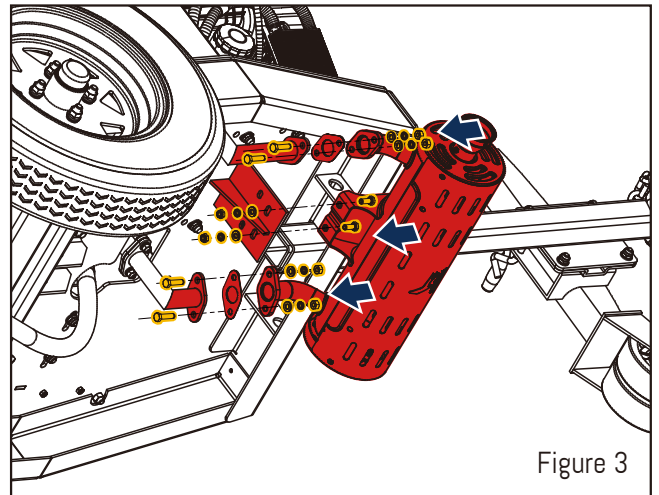

Figure 3
Attach the muffler to the chassis using a hex bolt (M8x20), flat washer (8), spring washer (8), and hex nut (M8). (See Figure 3)